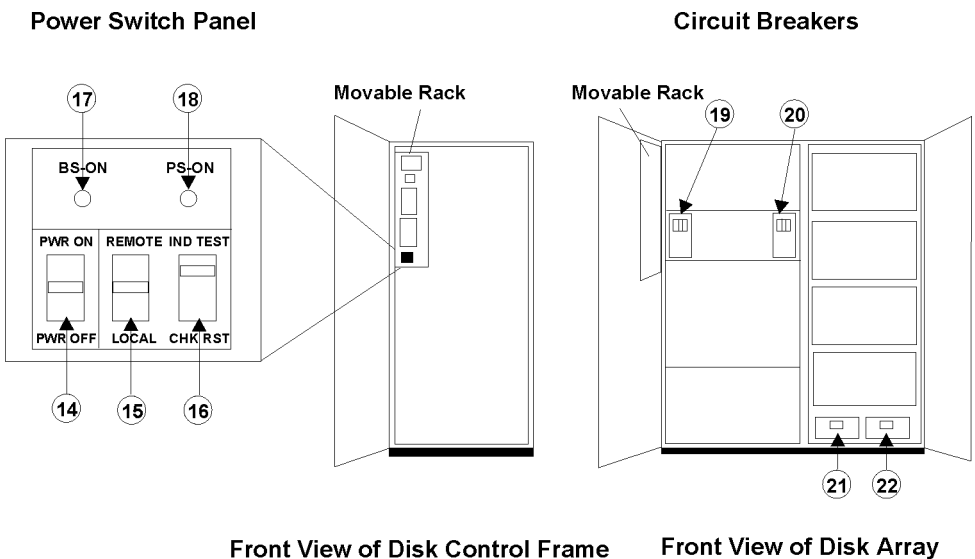

Figure 4 Power Switch Panel
The power switch panel is under the control panel. The item numbers in Figure 4 correspond to the item numbers in Table 2.
1. Move the REMOTE/LOCAL switch on the front panel (15, Figure 4 on p. 28) to the LOCAL position. The normal position is REMOTE
2. Toggle the PWR ON/OFF switch on the front panel (14, Figure 4 on p. 28) to the PWR ON position.
- a. The BS-ON (17, Figure 4 on p. 28) will turn amber and the PS ON LED (18, Figure 4 on p. 28.) will turn green.
4. Move the REMOTE/LOCAL switch on the front panel (15, Figure 4 on p. 28) to the REMOTE position.